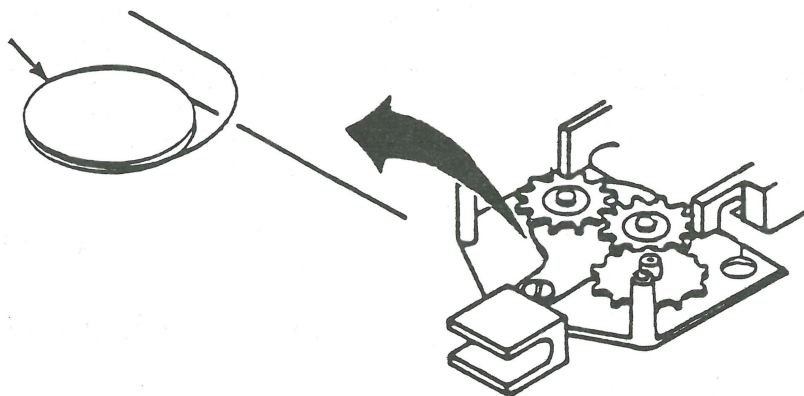

FIGURE 13
2. Work the wire (Figure 13, #1) around the pulley gear as shown.